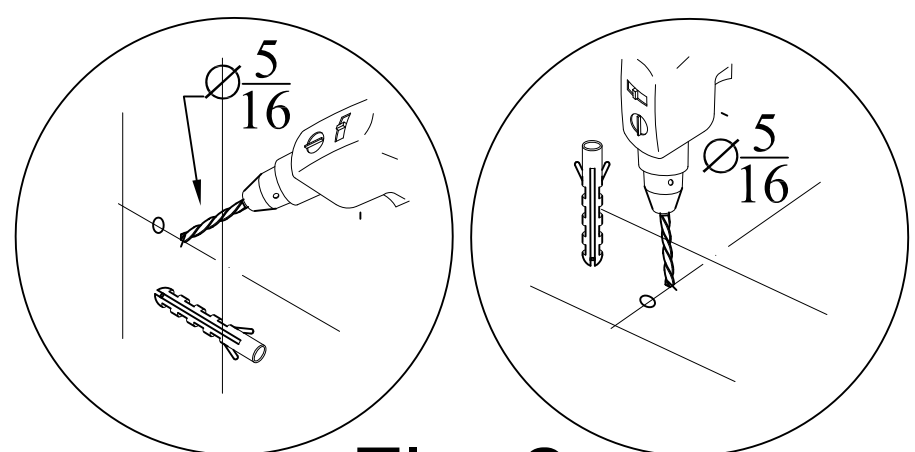

Fig. 2
2. Using the appropriate drill bit for your wall and floor surface drill each hole location with a 5/16" diameter drill bit. Install the plastic wall anchors provided into the drilled holes. See Fig.2 for details